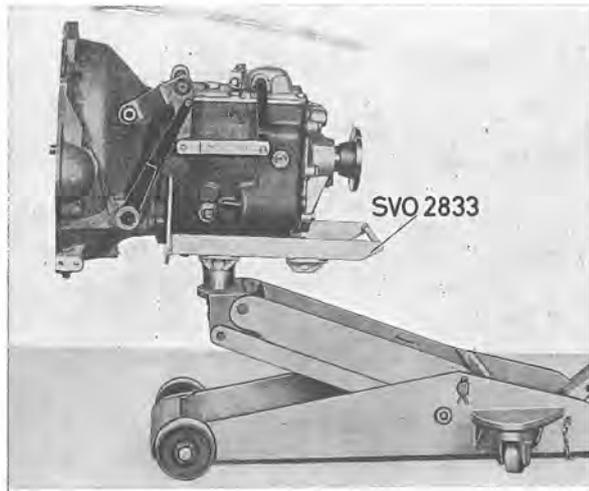

Fig. 4-17. Fixture for removing gearbox
- SVO 2833 Fixture for gearbox. Used on garage jack when removing and fitting gearbox, see Fig. 4-17
6. Replace the lifting plate on the jack with fixture SVO 2833. The pin in the fixture should then be located in its front position for gearbox M 400 and in the rear position for the M410 gearbox. Support the gearbox with the fixture. Slacken the bolts in the clutch casing. Pull the gearbox rearwards and then lower it, see Fig. 4-17.